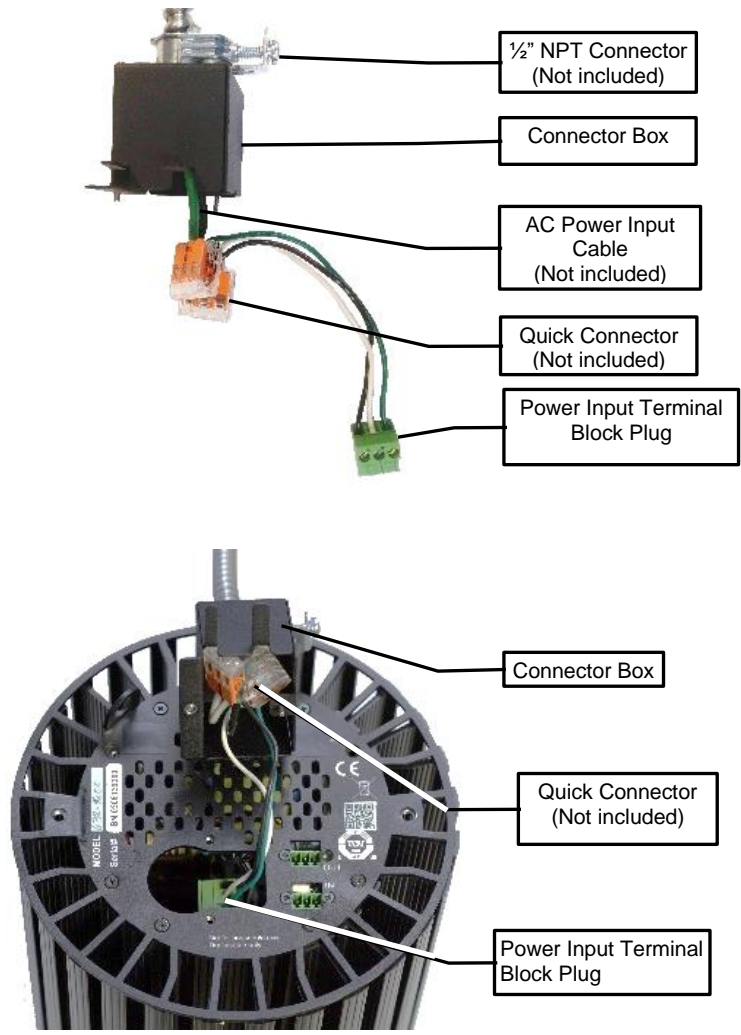

Figure 4: Power cable connection
1. A Connector Box is provided with the fixture (Figure 4), and is not attached to the fixture. The Connector Box must be mounted as described in the following steps.
4. Insert the power cable with the appropriate ½" NPT Connector or Cable Strain Relief through the Connector Box (Figure 4). The hole on the connector box has a Suitable dimension to attach a ½" NPT connector on it. The Power Input Terminal Block Plug has three soft wires attached to it. Attach the provided wires to the wiring for the AC power input cable with Quick Connectors or Marret Connectors (Figure 4). Quick Connectors are not included with the fixture.
5. Put the Quick / Marret Connectors inside the Connector Box. Plug the wired Terminal Block Plug into the Power Input Terminal Block Header (Figure 4).